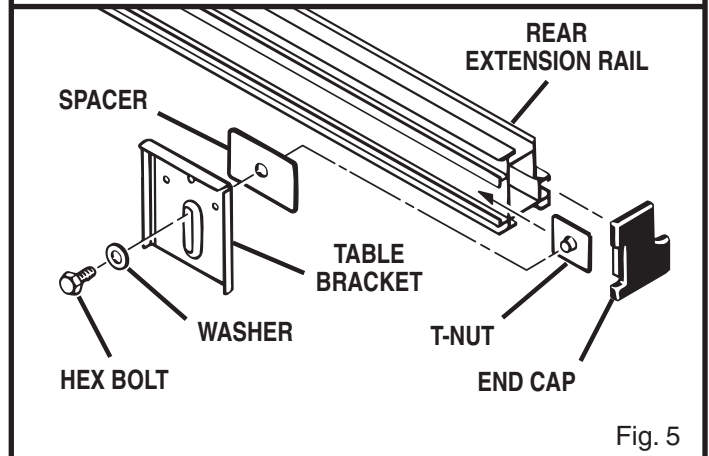

Fig. 5
- Place a spacer between table brackets and T-nuts on rear extension rail as shown in figure 5.